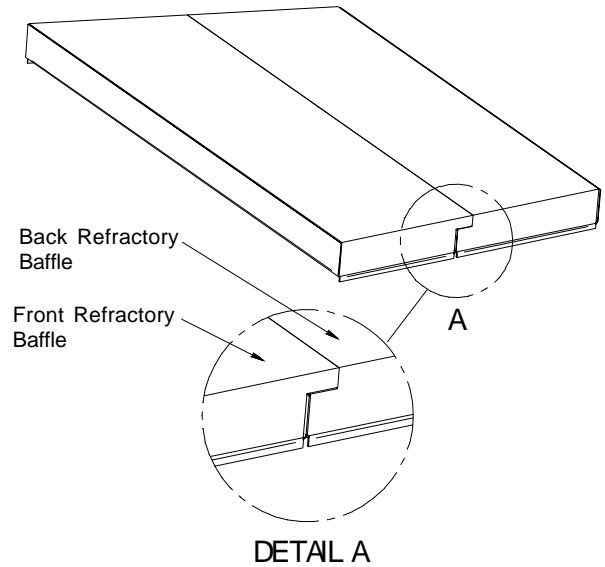

FIGURE 11 - Overlapping of the Front and Back Refractory Baffles
- Ensure that the Front Refractory Baffle overlaps the Back Refractory Baffle and both are snug as per Figure 11.